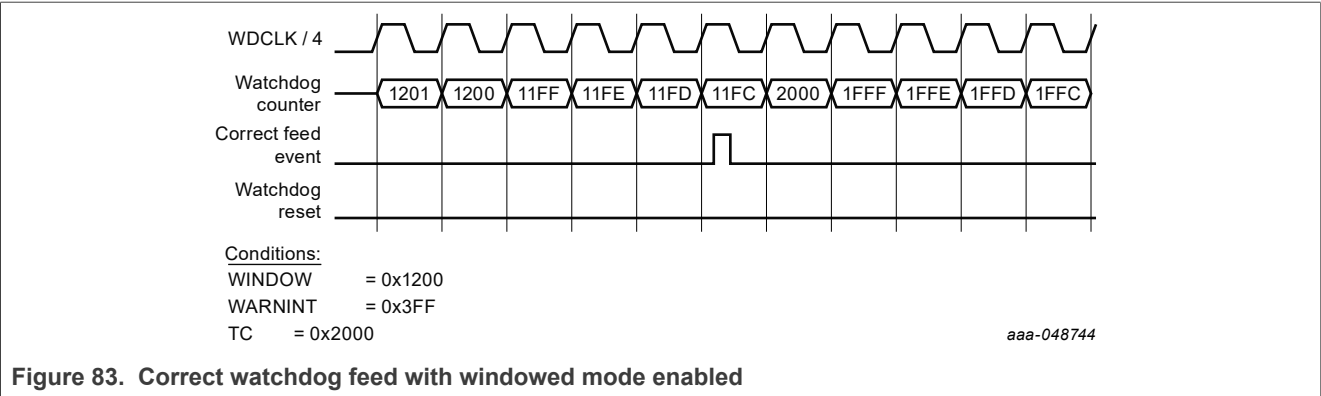

Figure 83. Correct watchdog feed with windowed mode enabled
Figure 83 shows that no watchdog reset is generated when the FEED event is executed while the current watchdog counter value (TV) is smaller than or equal to the watchdog window value (WINDOW)